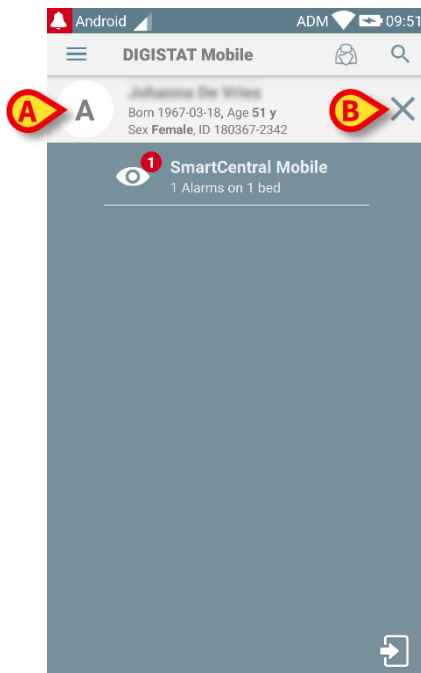

Fig 184
Patient data are on top of the page (Fig 184 **A**). All the data in all the Digistat Mobile modules are now filtered by patient (i.e. all and only the selected patient alarms/notifications are displayed).
- Touch the cross indicated in Fig 184 **B** to deselect the patient.